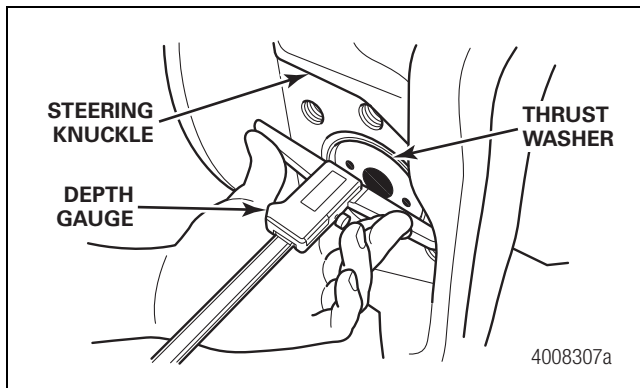

Figure 8.13
- Use a depth gauge to measure from the king pin boss to the thrust washer face. Figure 8.13.